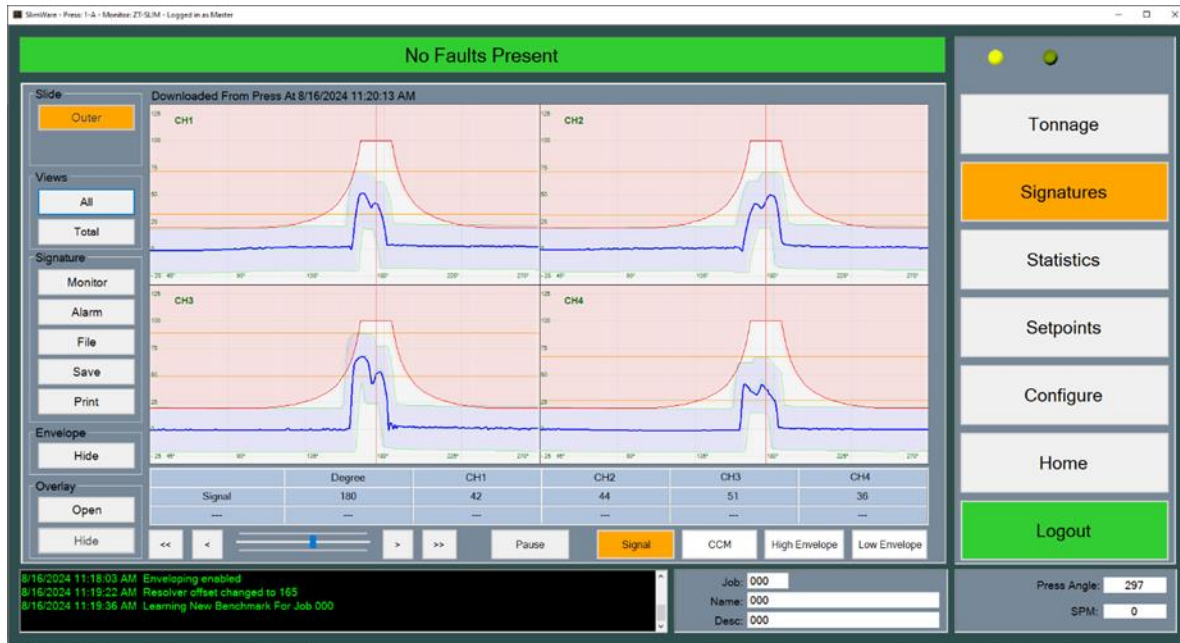

Figure 2-6: Signature Screen (4-Channel)
Figure 2-6 shows a typical four (4) channel signature with enveloping. Operators can analyze the signatures from each stroke and determine if there are problems such as excessive tonnage early or late in the stroke.